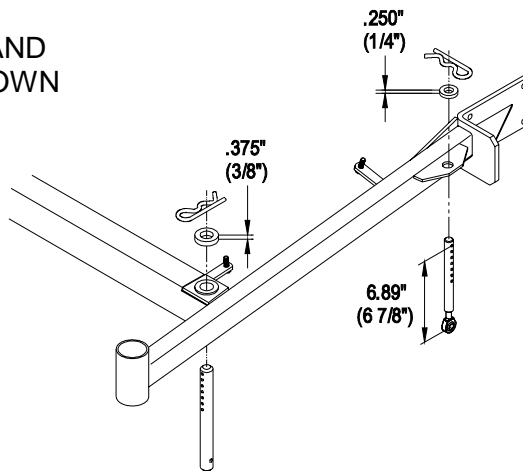

FIGURE 3
- b) Install hairpin clips in the holes for the desired cutting height. See Figure 3.
1. The front and rear hairpins are in the same holes with the proper spacers under the hair pins. See Figure 3.
2. The length of the rear deck support link assemblies should average 6.89" (approximately 6 7/8" (17.5 cm)) from the center of the balljoint to the center of the farthest hole. See Figure 3.